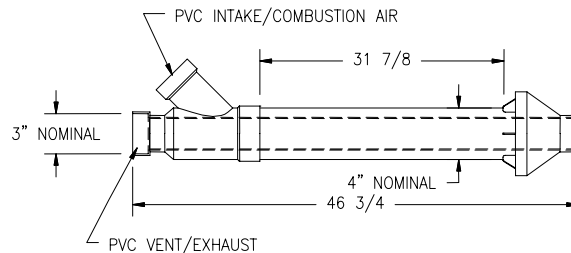

Figure 19. Dimensional Layout of Concentric Vent Kit
If assembly is too short to meet height requirements, the two pipes supplied in the kit may be replaced by using the same diameter pipe. DO NOT extend the overall dimension by more than 60 inches. See Fig. 19.
1. Become familiar with coaxial vent kit part no. 239-44069-01. As shown in Figures 19 through 21.